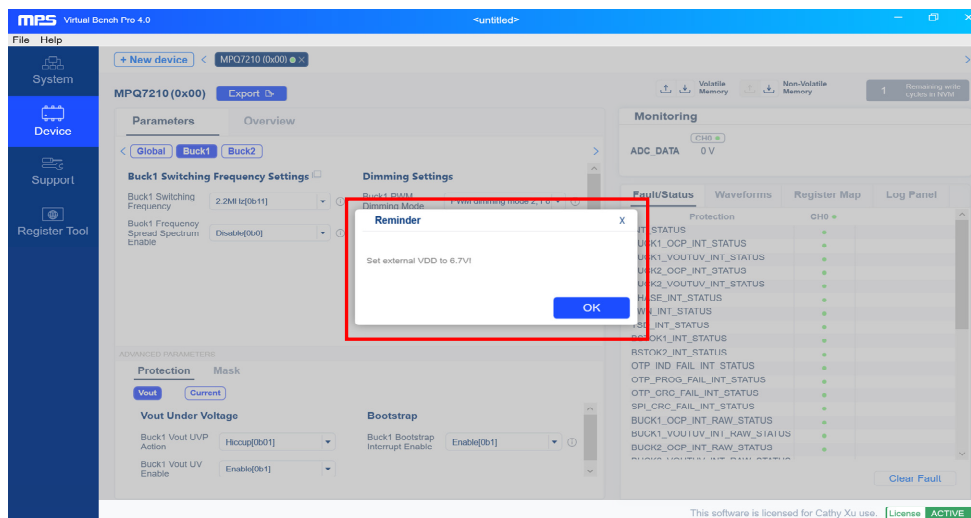

Figure 12: Reminder to Set VDD to 6.7V in Virtual Bench Pro 4.0
- f. The user may receive certain reminders to complete the process. Figure 12 shows a reminder to adjust the external VDD power supply to 6.7V. (VDD in Virtual Bench Pro 4.0 represents the VCC voltage (V_{CC}).)